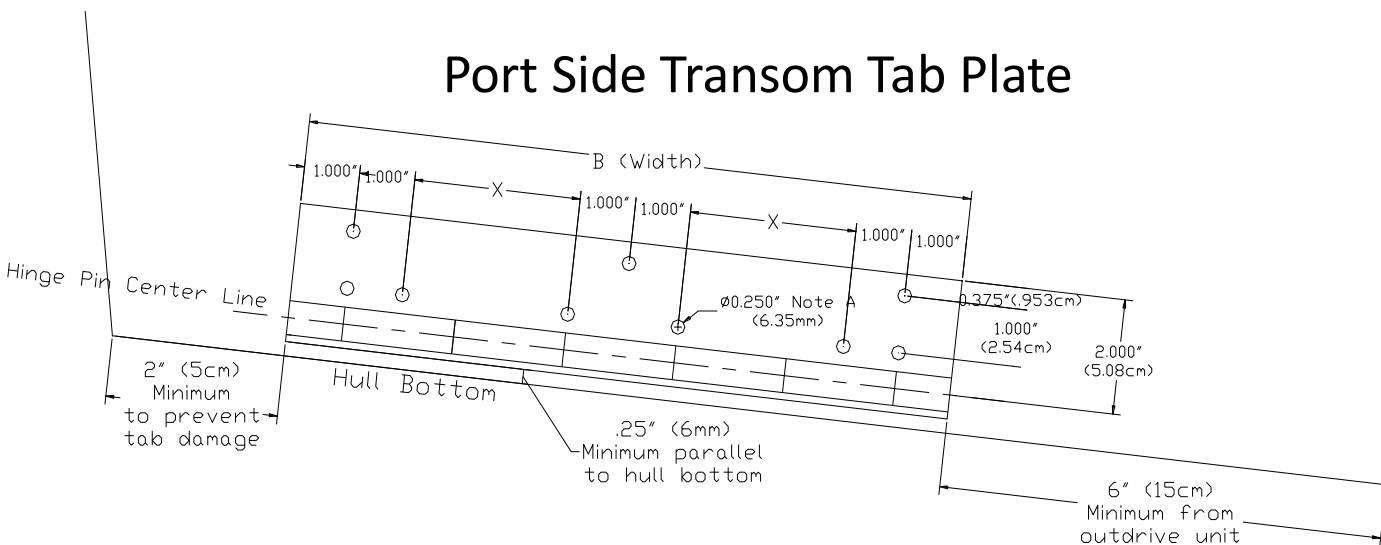

Fig. 1
Review the tab plate and actuator installation diagrams in Fig 1 and 2 to ensure there are no interference issues with the tab plates or actuator on the boat transom before actual mounting begins. Place the actuator and tab plate against the transom before mounting to correct any interference problems before mounting begins.
1. Align the tab mounting plate to the transom as shown in Fig. 1. A tab mounted closer to the boat chine is more effective in correcting list; however, maintaining a 2" (5cm) or greater distance from the chine will reduce the risk of tab damage from docks or other obstructions. Keep the inward facing tab edge approximately 6" (15cm) or more away from the motor outdrive unit for motor clearance when fully turned.